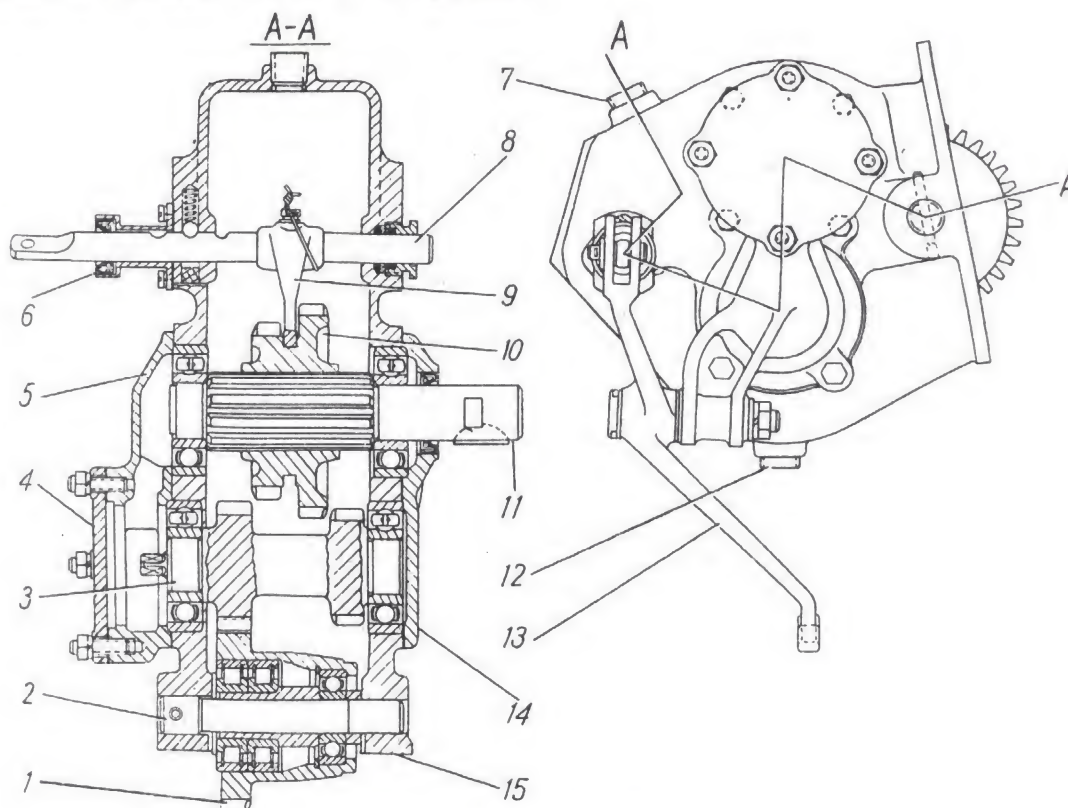

FIG. 31. WATER-JET PROPELLER POWER TAKE-OFF
Filling of the gearbox with oil and checking of its level are performed through the hole in the water-jet propeller power take-off housing. The hole is closed by plug 7 (Fig. 31). The oil level should reach the lower edge of the hole.
The power take-off (Fig. 31) serves to transmit torque to the water-jet propeller. It is fastened to the gear case.
3. Set rod 8 (see Fig. 31) in the fixed middle position which corresponds to the neutral position of the gears in the power take-off (check the fixed position of the rod by hand feel).
1. Checking of oil level, and replacement of oil. These operations are carried out in conjunction with the gearbox maintenance. To drain oil from the gearbox, screw out power take-off drain hole plug 12 (see Fig. 31).